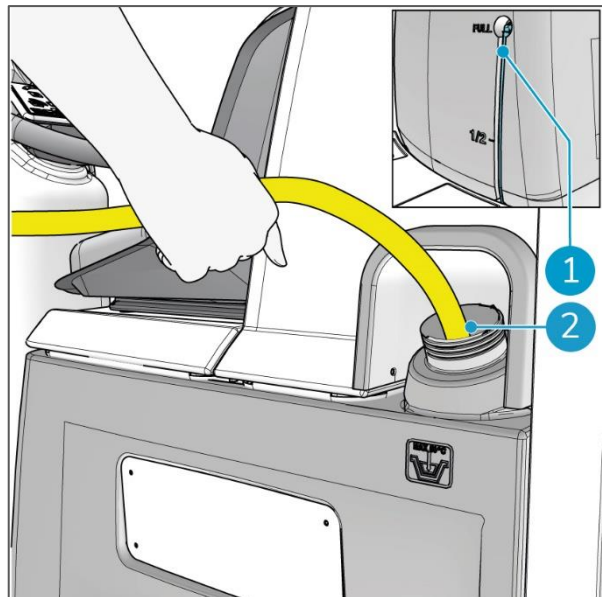

Figure 20
2. Place a water hose in the opening (Figure 20, pos 2).
3. While keeping an eye on the solution level indicator (Figure 20, pos 1), fill the tank with a maximum of 58 L of water.